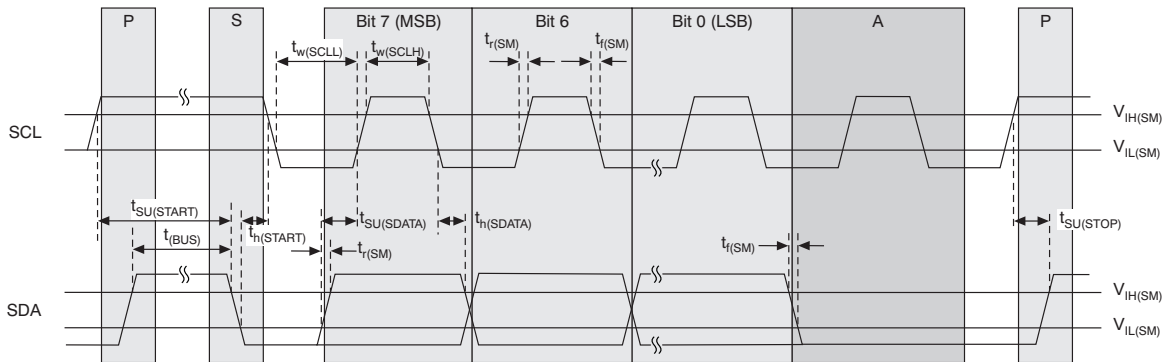

Figure 7. Timing Diagram for the SDA/SCL Serial Control Interface
(1) See Figure 7 for the timing behavior.